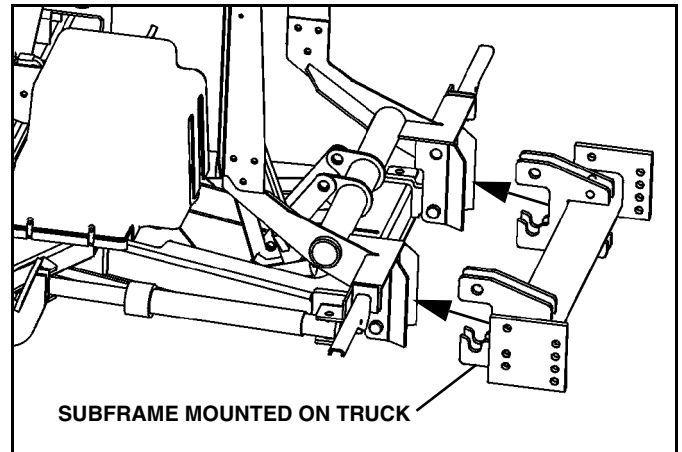

Figure 1-21
1. Drive truck into plow. Align light/lift bar frame outside of sub-frame lugs. Pins should fit inside slots cut into sub-frame lugs. (See Figure 1-21).